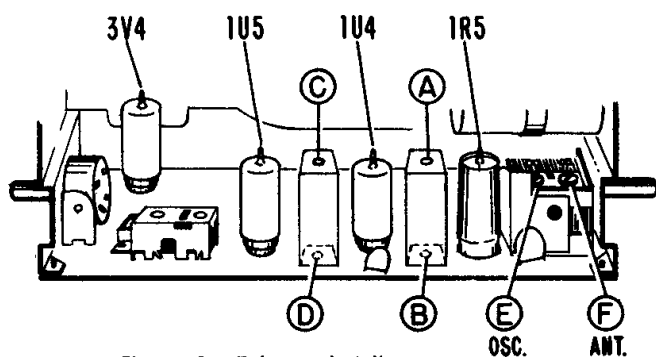

Figure 1. Tube and Adjustment Location.
*Adjustments B and D are made from underside of chassis. See figure 1. To avoid splitting the slotted head of powdered iron tuning slug in IF transformers, use an alignment tool with a blade 3/32" wide.